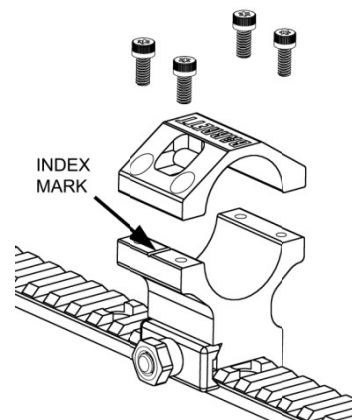

Figure 2-3
2. Use the front Scope Ring to hold the riflescope in the rings. Remove the front scope ring cap using the T-25 Torx wrench. Place the riflescope in lower rings, and start the threads of the cap screws (4) into the front lower ring. Tighten the indexed side only. The scope should still be able to move in the scope rings, loosen slightly if required. Figure 2-3